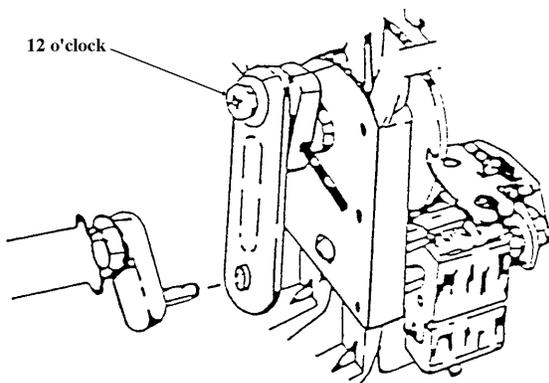
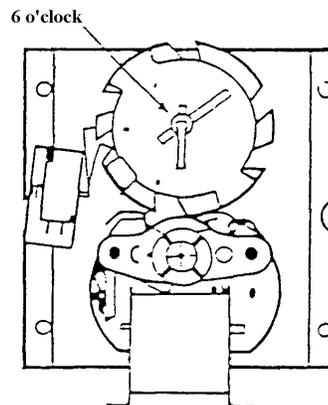

Fig. 10
Fig. 11
1. Make sure the hole through the rear shaft is in a horizontal plane. (If a pin were inserted in the hole, the pin would be horizontal). See Fig. 10.
2. Slide the Drive Arm (with linkage attached) on the rear shaft as shown. See Fig. 10.
6. Install the Vending Cam on the front shaft of the Motor making sure that the Lock Tab is at 6 o'clock as shown. See Fig. 11.
**NOTE:** When the screw holding the Linkage Arm to the Drive Arm is at the 12 o'clock position (See Fig. 10), the Lock Tab will be at the 6 o'clock position (See Fig. 11).